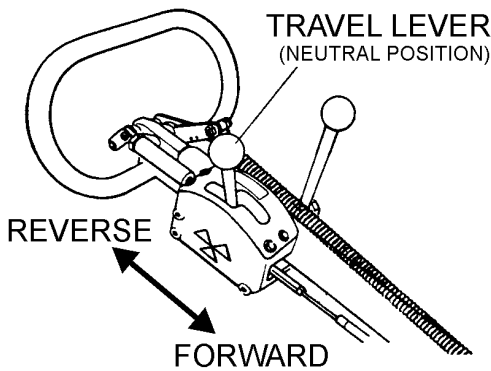

Figure 21. Travel Lever
1. To make the roller move in the forward direction push the travel lever ( Figure 21) forward. This roller has a hydraulic variable speed transmission. By moving the travel lever various increments, you can vary the speed from 0 to 1.8 mph (0 to 3 km/hr).
2. To make the roller move in the reverse direction pull the travel lever ( Figure 21) backwards.